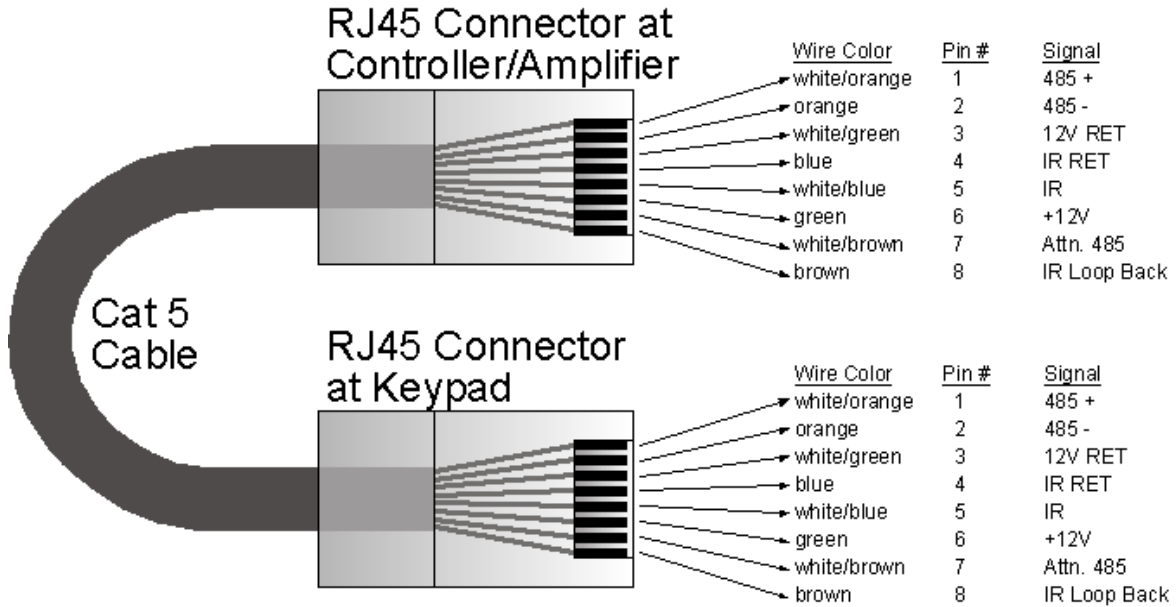

Figure 4 - CAT5 Pin Assignments (per EIA/TIA 568B) Pinned 1:1
The MX88 utilizes 'Pin-to-Pin' CAT5 cabling for its wired zone controllers (MX-compatible keypad or touch-panel) that can be purchased pre-fabricated at fixed lengths or self-assembled to custom lengths. The color-coded wiring standard is EIA/TIA 568B as shown in **Figure 4**. The plastic connector on the end of the CAT5 wire is "registered jack" RJ45.
1. See **Figure 4** for proper termination of the CAT5 cables to the RJ45 connectors.
1. Refer to **Figure 4** for proper termination at the zone-end of the CAT5 cable.
1. For a second keypad in the same zone, terminate the CAT5 cable in the same way as shown in **Figure 4**.